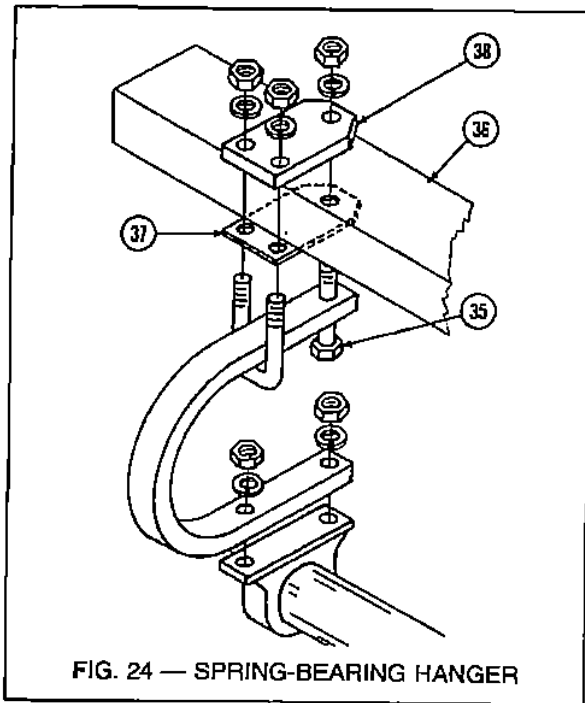

FIG. 24 — SPRING-BEARING HANGER
12. Spring Bearing Hangers: (See Fig. 24)